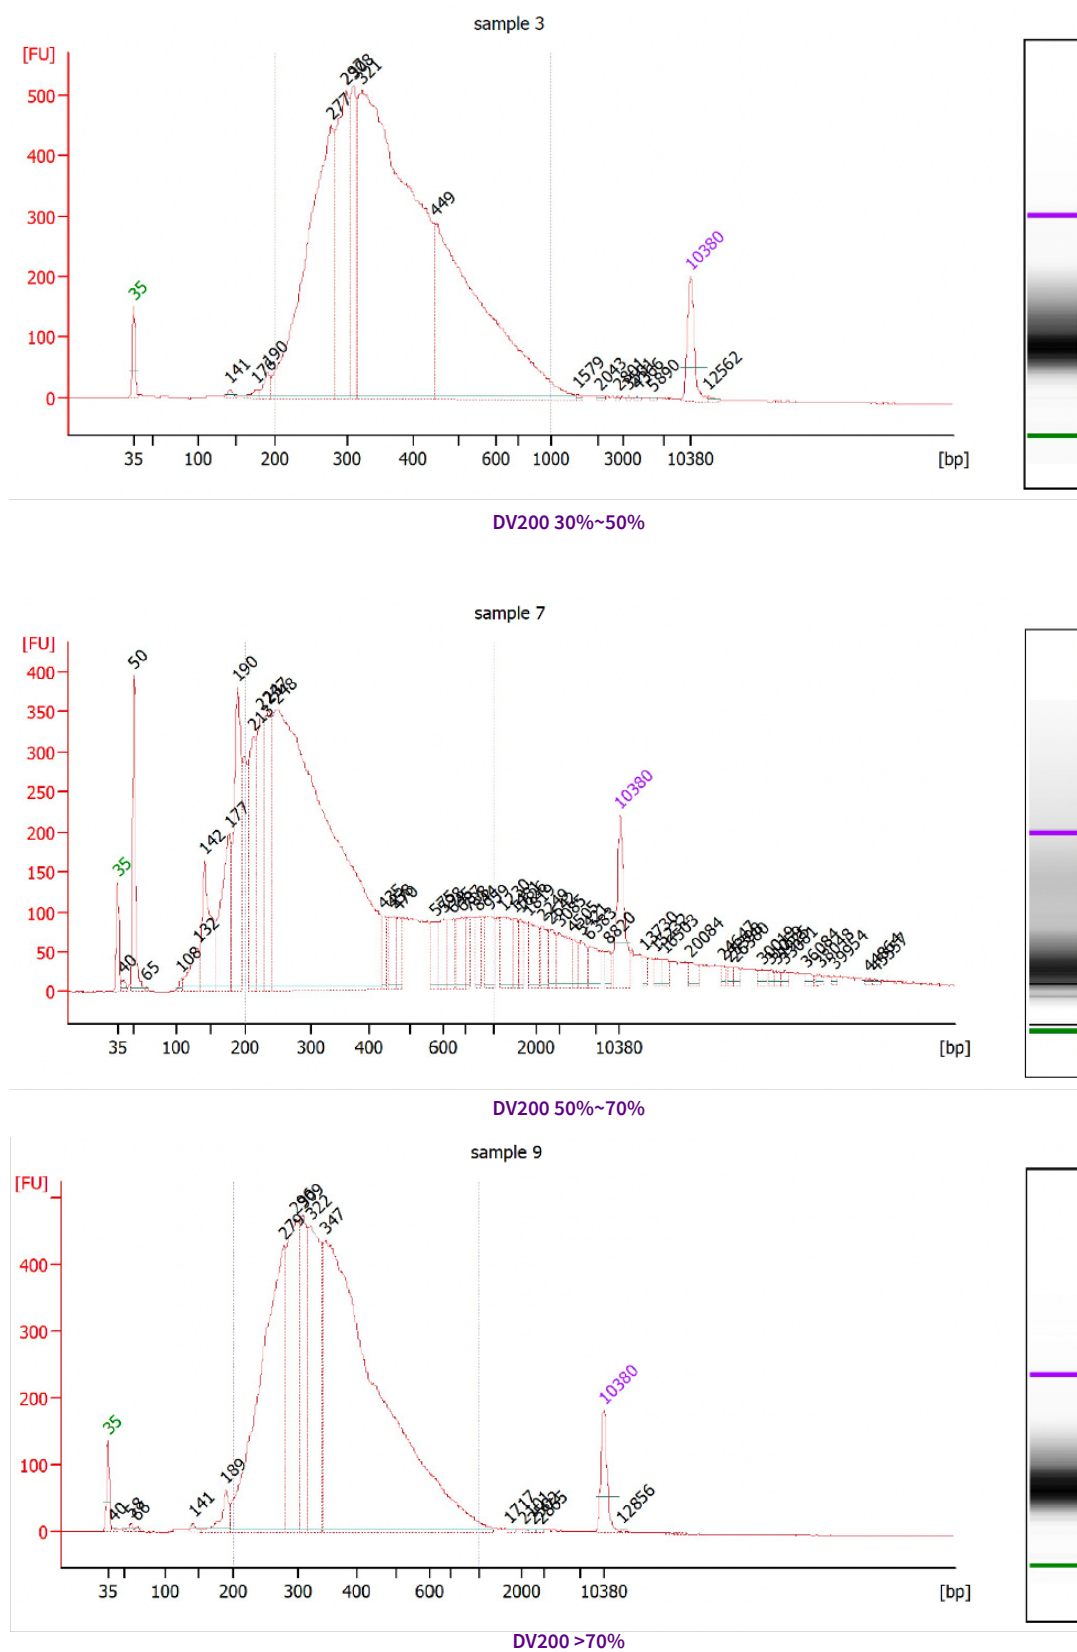

Figure 1. Agilent 2100 Bioanalyzer fragment size distribution of the FFPE Libraries from samples with different DV200 score
- e. Take 1 µL of purified PCR product and measure the concentration with Qubit dsDNA HS Kit. Use Bioanalyzer, Tapestation (Agilent Technologies), LabChip® GX, GXII, GX Touch (PerkinElmer), Fragment Analyzer™ Advanced Analytical) or other equipment based on the principle of electrophoretic separation to detect the fragment distribution of the purified PCR products. The main peak of fragment distribution is around **100-1000 bp** (Figure1). Normally, the PCR yield is higher than **100 ng**.